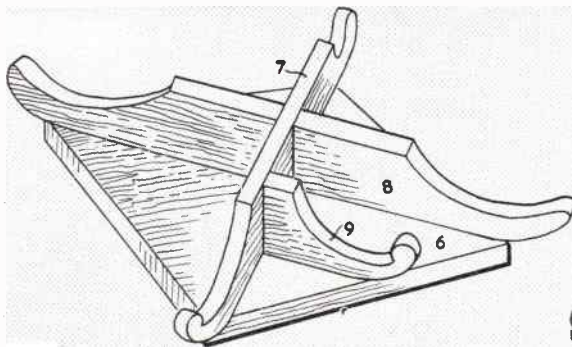

Fig. 3
The next stage is to assemble the various pieces which go to make up the lid. Pieces (7) and (8) are halved together and glued on top of piece (6) in the positions shown by dotted lines on the design sheet. Fig. 3 also shows how these